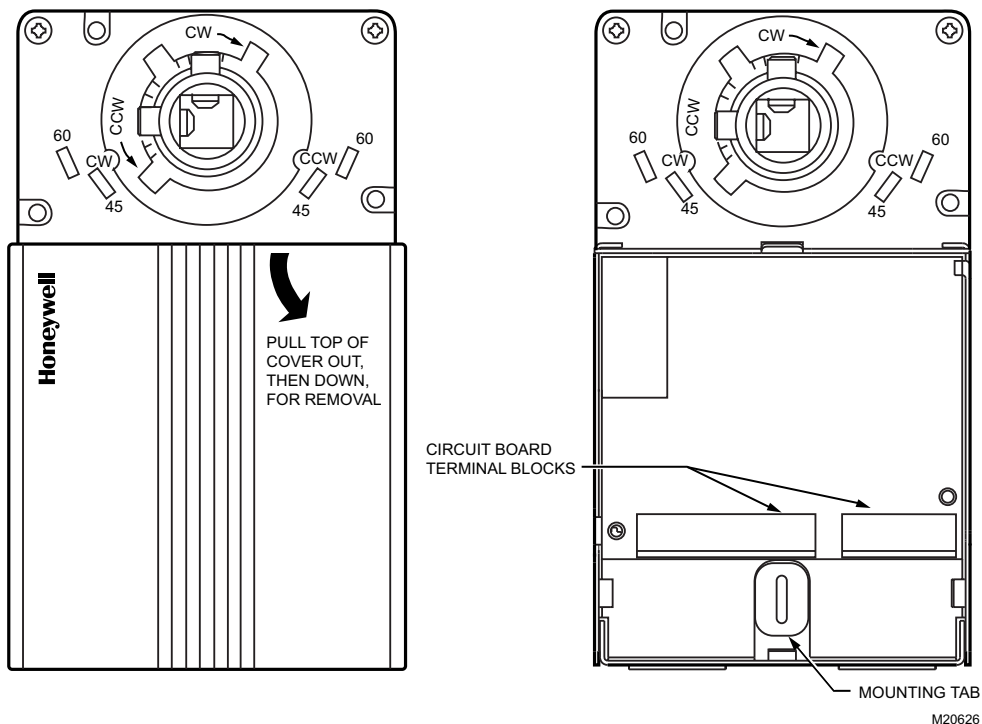

Fig. 3. Cover removal and mounting tab/terminal block access.
The W7751J assembly is field mounted to the VAV box damper shaft, the same as used for a typical actuator. The actuator on the W7751J opens or closes a damper by driving the damper shaft in either the counterclockwise (CCW) or clockwise (CW) direction. The actuator has a mounting tab on the bottom for securing to a VAV box damper. The mounting tab is accessible through a hole in the controller with its cover removed (see Fig. 3). The tab is sized for a 1/4 in. (6 mm) screw or pin (not included).